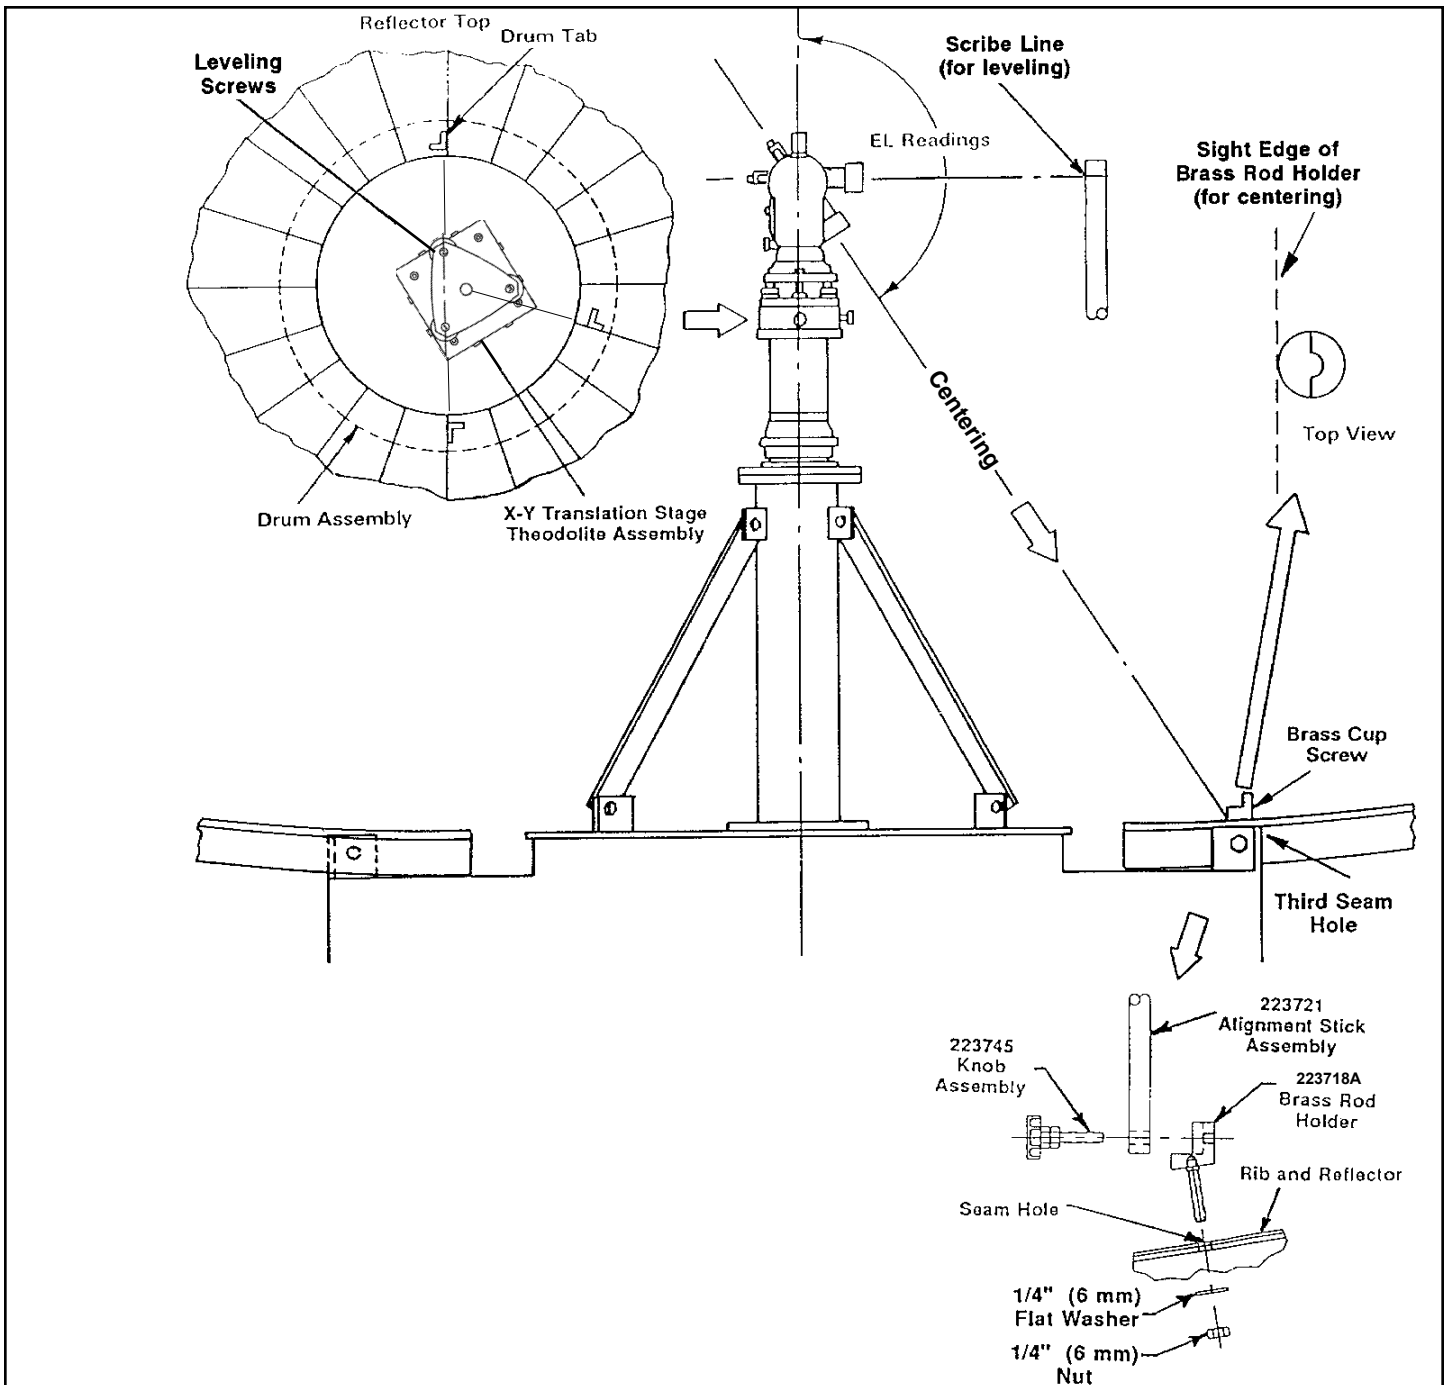

Figure 38
Refer to Figure 38. Assemble 3 brass rod holders as shown. The brass rod holders used for calibration of the theodolite to the reflector and subsequent alignment of the reflector, must be installed in the third seam holes at the panel seams shown.
Refer to Figures 38 and 39. With the height of the theodolite and its support kit set as indicated in Figure 24, the theodolite should sight near the scribe line of the alignment stick when theodolite elevation is set to $90^{\circ} 00' 00''$. If not, set the theodolite elevation angle to 90° and move the theodolite up or down until it sights on the scribe line using the rotary precision lift. Be careful not to turn entire torque tube while turning precision lift.
- Step 1** Refer to Figures 38 and 39. Centering of the theodolite is performed using the X-Y translation stage. This device has 2 sets of micrometer adjustments and 2 sets of long locking adjustment screws which are opposed at 90°.
- Step 3** Refer to Figure 38. Centering is performed by focusing the theodolite on the intersection of the brass rod holder and the reflector skin.